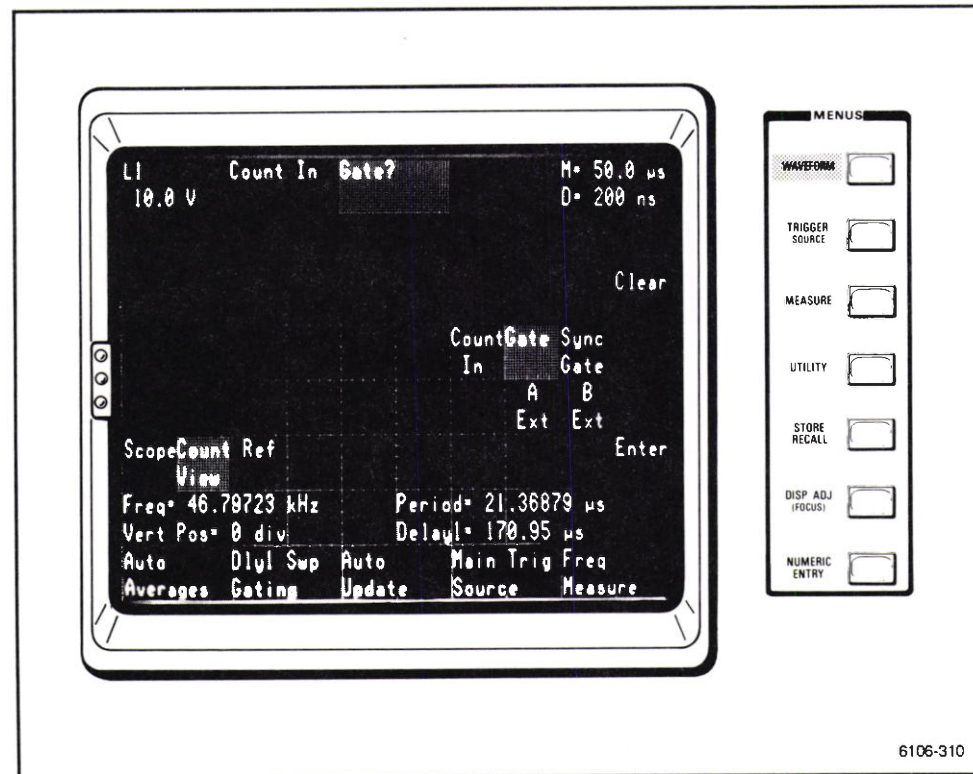

Figure 2-111. The WAVEFORM major menu with Count View selected, and the Count View menu with Gate selected.
- From the WAVEFORM major menu, display the counter view signal called Gate by touching **Gate** in the *Count View* menu. Turn off the menu by pressing the WAVEFORM major menu button again. (See Fig. 2-111.)